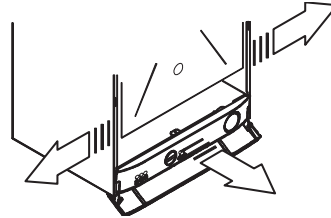

Figure 12.3
- Move the lower part of the side panels (Figure 12.3).